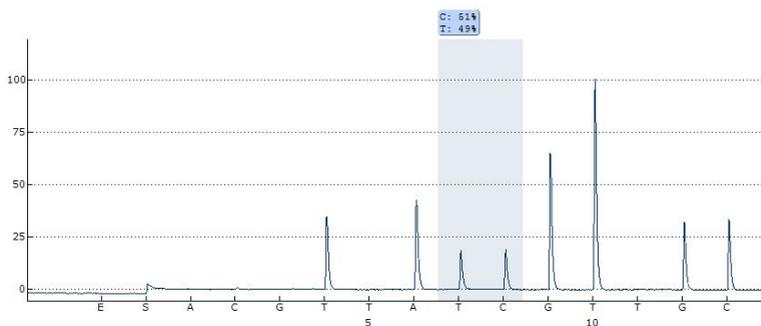

Figure 15.Pyrogram of the PyroMark Q96 ID Troubleshooting Run.
51. Open the run in the PyroMark Q96 ID Software 2.5 and analyze all wells (see *PyroMark Q96 ID Software 2.5 Online Help*). The peak pattern should look like the one in Figure 15.